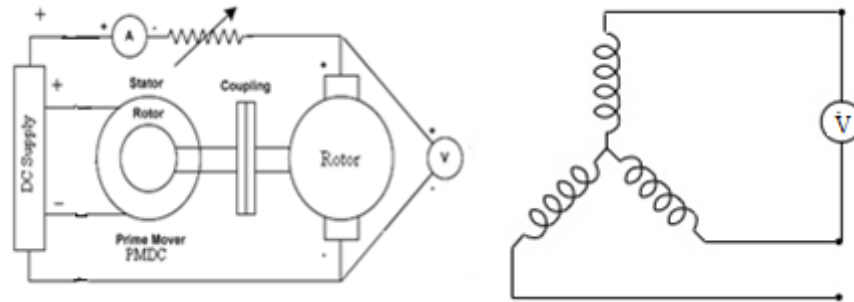

Figure 10.3: Open circuit test
Since the unsaturated core of the machine has a reluctance thousands of times lower than the reluctance of the air-gap, the resulting flux increases linearly first. When the saturation is reached, the core reluctance greatly increases causing the flux to increase much slower with the increase of the mmf. The circuit diagram for open circuit test is shown in Figure 10.3
1. Make the connection as show in Figure 10.3 carefully.